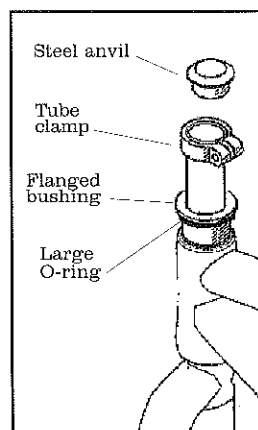

Fig. 28
1. Install the **large rubber O-ring** onto the **flanged bushing** (Fig. 28).